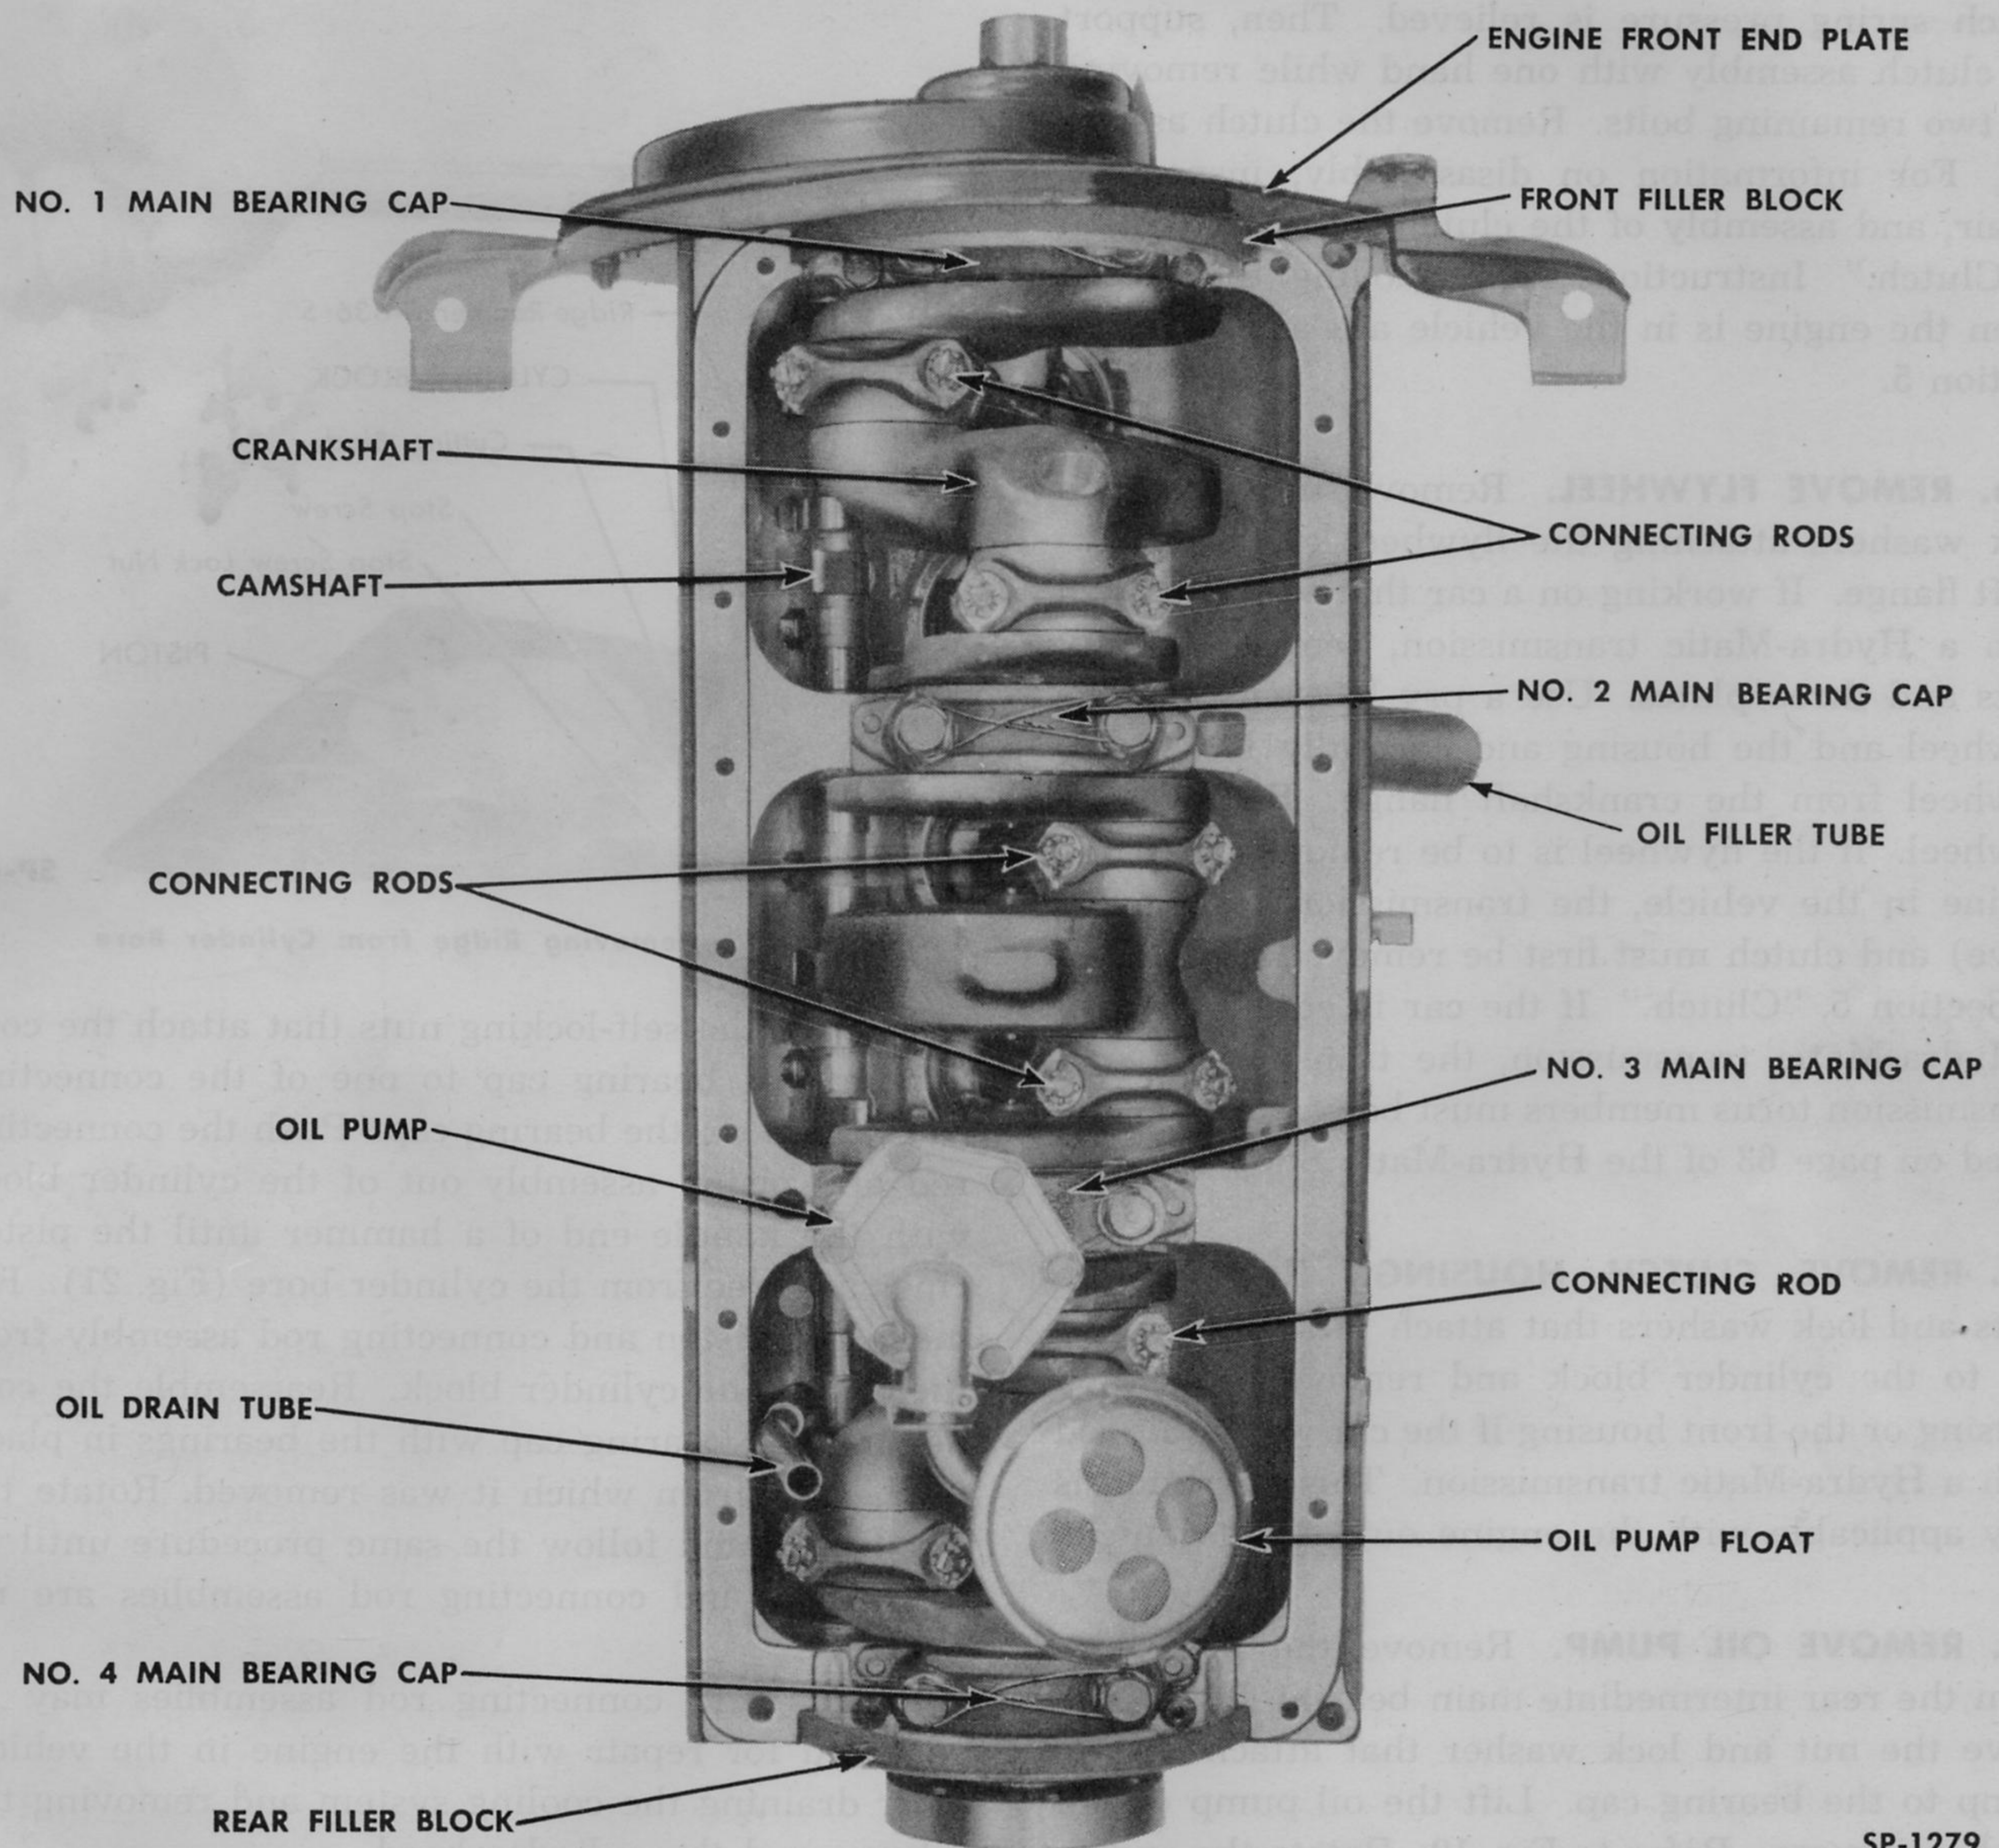

Fig. 19—Underside of Engine with Oil Pan Removed
e. REMOVE OIL PAN. Remove the bolts and lock washers that attach the oil pan to the cylinder block and remove the oil pan and gaskets (Fig. 19). Discard the gaskets.
j. REMOVE OIL PUMP. Remove the lock wire from the rear intermediate main bearing bolts. Remove the nut and lock washer that attach the oil pump to the bearing cap. Lift the oil pump out of the bearing cap. Refer to Fig. 19. Rotate the engine to the vertical position, front end facing up, if the operations are being performed with the engine out of the vehicle.
t. REMOVE TAPPET CHAMBER DRAIN TUBE. Remove the nut and lock washer that attach the tappet oil drain tube clip to the cylinder block. Remove the drain tube and clip. Refer to Fig. 19 to identify the drain tube.